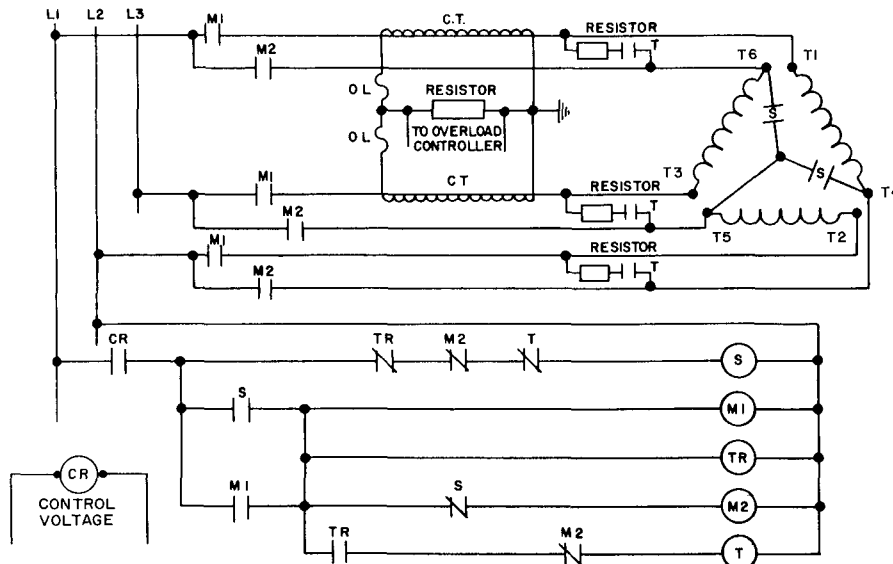

Fig. 5-8 - Star-Delta Circuit Diagram (Closed Transition up to 600 V)
**Star-Delta Starter - Closed Transition** - Operation of the closed transition "star-delta" starter (Fig. 5-8) is similar to that of the open transition with additional protection provided against high inrush current during the switch-over period from "star" to "delta" winding. The switch-over